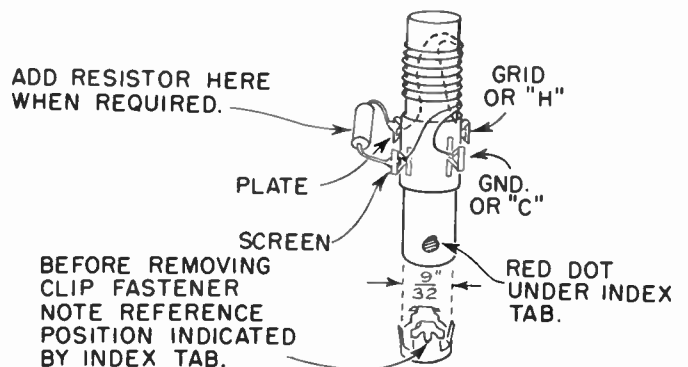

Figure 8. Replacement of I-F Transformer
5. Cement the transformer in place so that the coils and four terminals are underneath the board and positioned to facilitate wiring. See figure 8.
6. Connect the coils as indicated in the drawing shown in figure 8. Loading resistors must be installed across the primary winding of the replacement transformer in certain instances as indicated in the note next to the drawing.